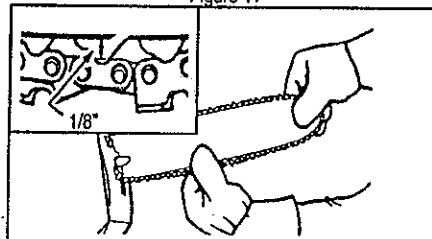

Figure 12
- Check the tension by pulling down and letting go of the chain. This action removes some of the stiffness of the chain. Figure 12.